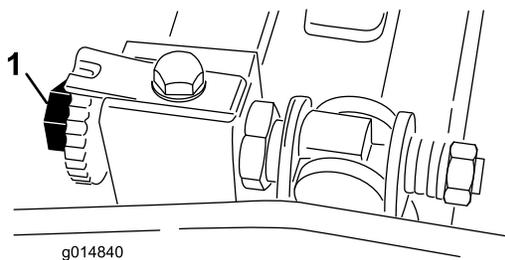

Figure 45
2. Ensure that the reel contact is removed by turning the bedbar adjusting screws counterclockwise (Figure 45).
to the bedknife, which results in a slight drag when paper is pulled (Figure 45).